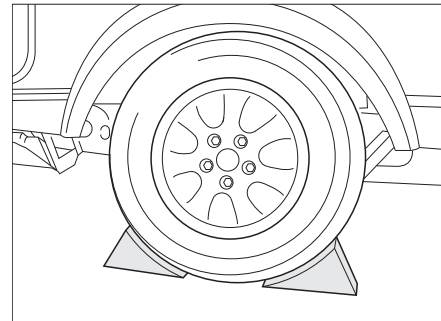

Fig. 162 Securing vehicle
- Place chocks or other appropriate objects beneath the opposite wheel of the vehicle to secure it (Fig. 162).